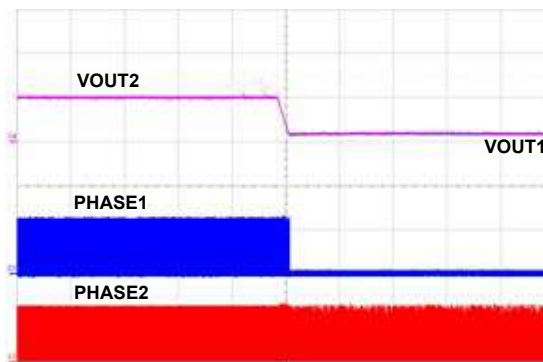

Figure 6. VOUT2 Tracking VOUT1 when Channel 1 is Disabled
- (7) Disable Channel 1. VOUT2 follows VOUT1 as shown in Figure 6 on page 10.